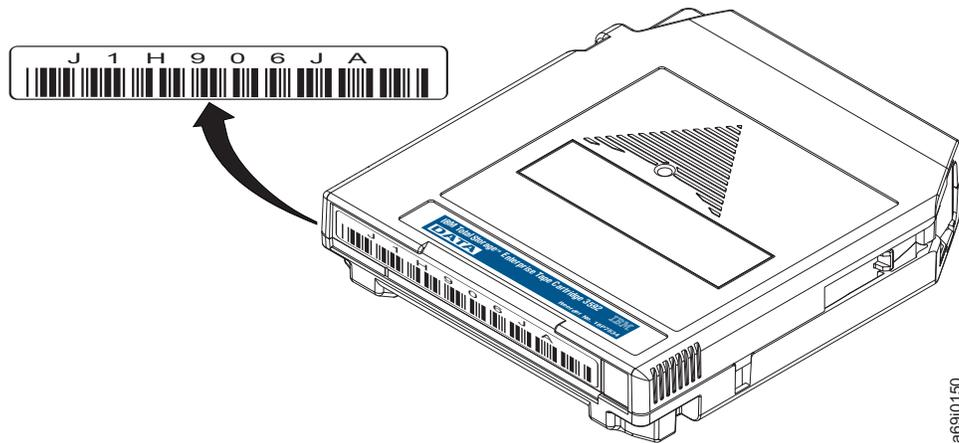

Figure 63. Sample bar code label on an IBM 3592 tape cartridge. The volume serial number (J1H906JA) and bar code are printed on the label.
When read by the library's bar code reader, the bar code identifies the cartridge's VOLSER to the tape library. The bar code also tells the cartridge type: data (JA), extended data (JB), advanced type C data (JC), advanced type D data (JD), economy (JJ), advanced type C economy (JK), advanced type D economy (JL), economy WORM (JR), WORM (JW), extended WORM (JX), advanced type C WORM (JY), advanced type D WORM (JZ), cleaning, or diagnostic cartridge. Figure 63 on page 276 shows a sample bar code label for the IBM 3592 Enterprise Tape Cartridge.
When attaching a bar code label to a tape cartridge, place the label only in the recessed bar code label area (see Figure 63 on page 276). A label that extends outside of the recessed area can cause loading problems in the drive or the library.